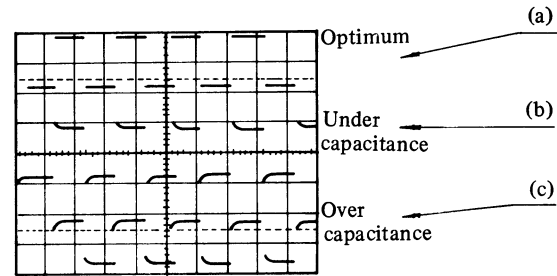

Fig. 6-3
- (1) Set the both VOLTS/DIV switches to 10 mV and set both AC-GND-DC switches to DC.
- (2) Using the approximately 1 kHz CALIBRATOR square-wave signal as the input signal, obtain a normal sweep display presentation (See Item 6.1 OPERATING PREPARATIONS).
- (3) Check the waveform presentation for overshoot and rounding. Readjust the probe compensation, if necessary, for flat tops on the waveforms (See Fig. 6-3).